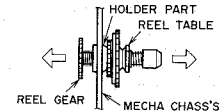

Fig. 3-6
- 1) Pull up the REEL TABLE and REEL GEAR in the direction of the two arrows (E) as shown in Fig. 3-6.